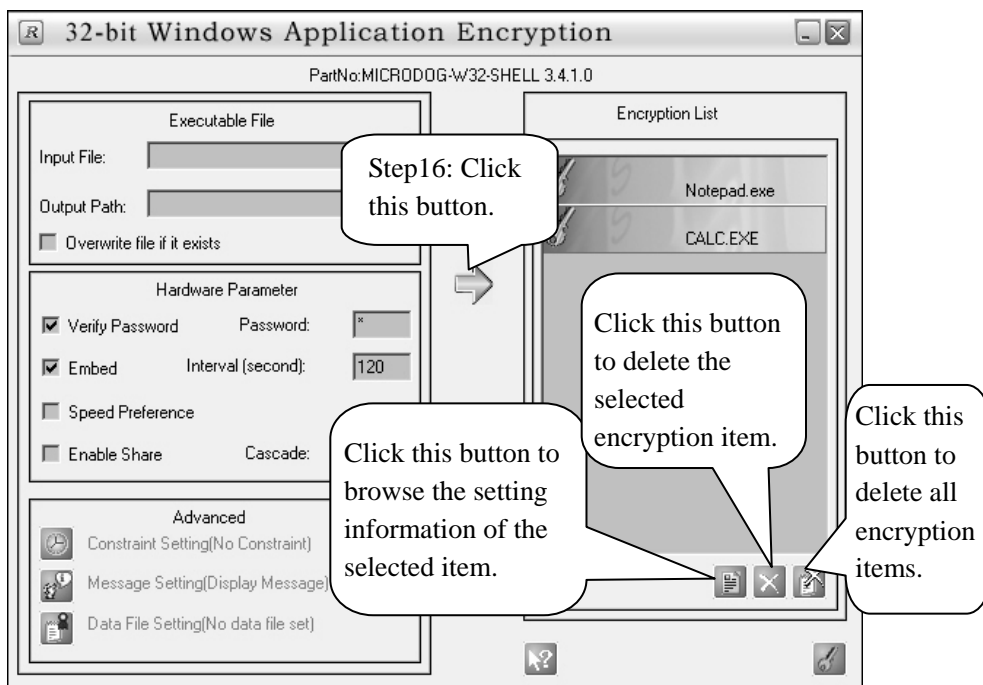
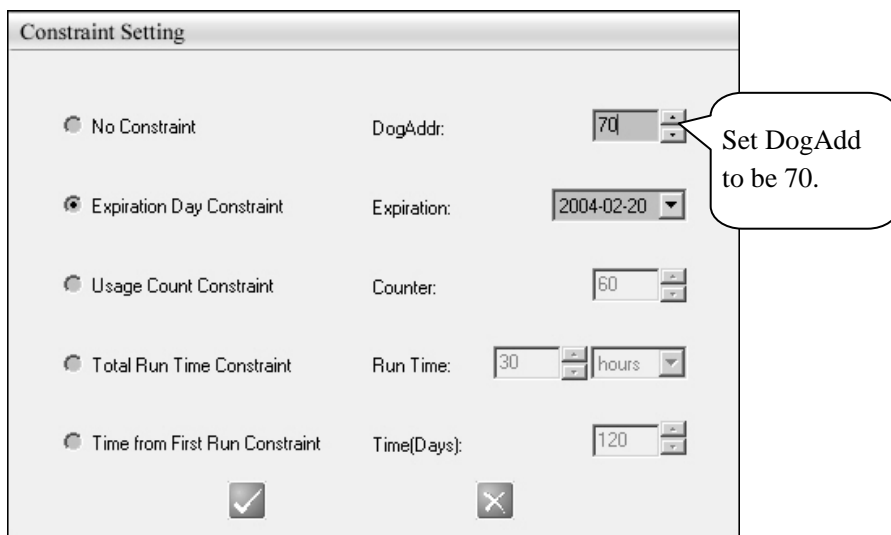

Figure 4-9
Figure 4-10
8. Follow the Step16 on the Figure 4-9 to add Notepad.exe to the Encryption List. Repeat the options above(from Step 1 to 16) with Calc.exe. If you set a expiration constraint to Calc.exe, change the **DogAdd** option (see Figure 4-10), the value of **DogAdd** must be different from that of Notepad.exe.